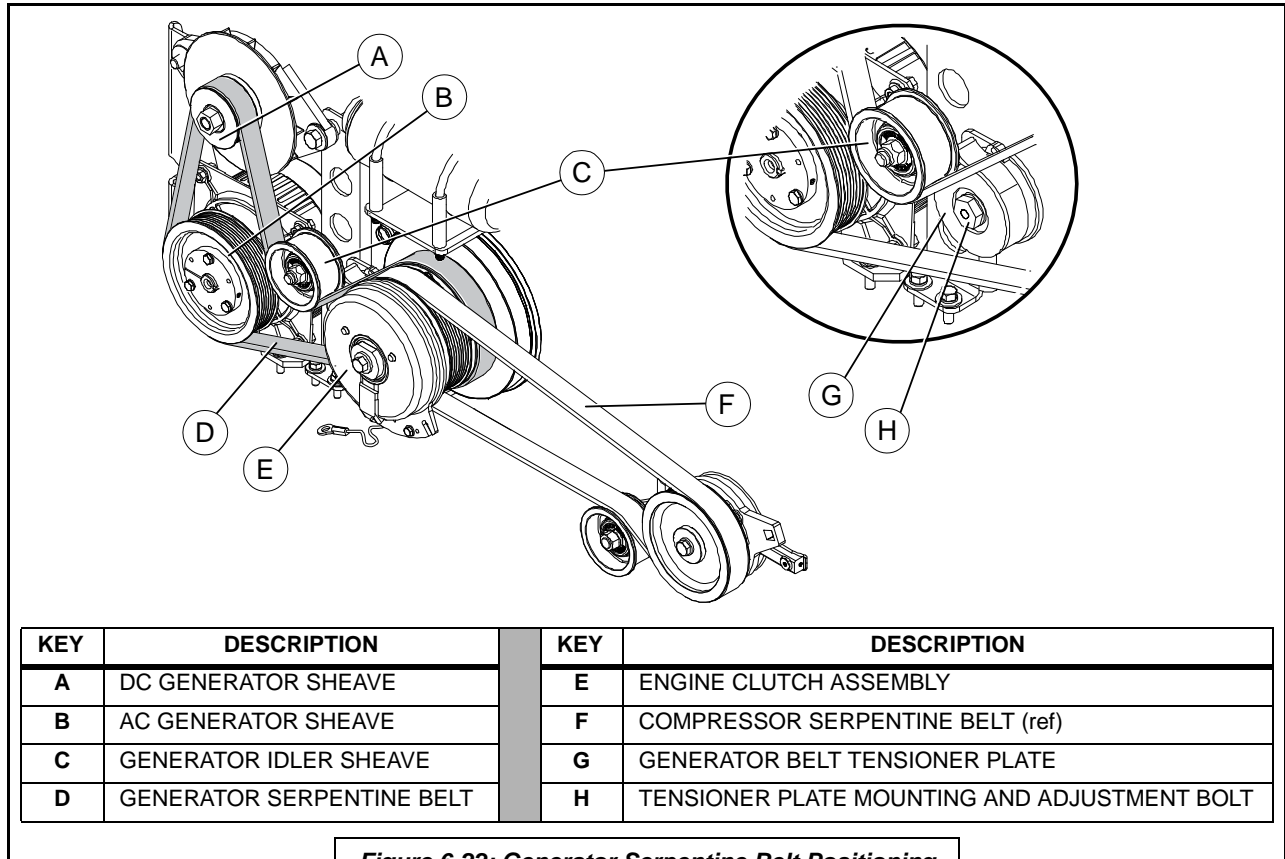

Figure 6-22: Generator Serpentine Belt Positioning
After removing the air compressor serpentine belt ([F] in **Figure 6-22**; refer to **Section 6.6.15.2** for compressor serpentine belt removal), The worn generator serpentine belt can now be replaced. Refer to **Figure 6-22** and the following steps:
5. Position and route the new generator serpentine belt as shown in **Figure 6-22**.